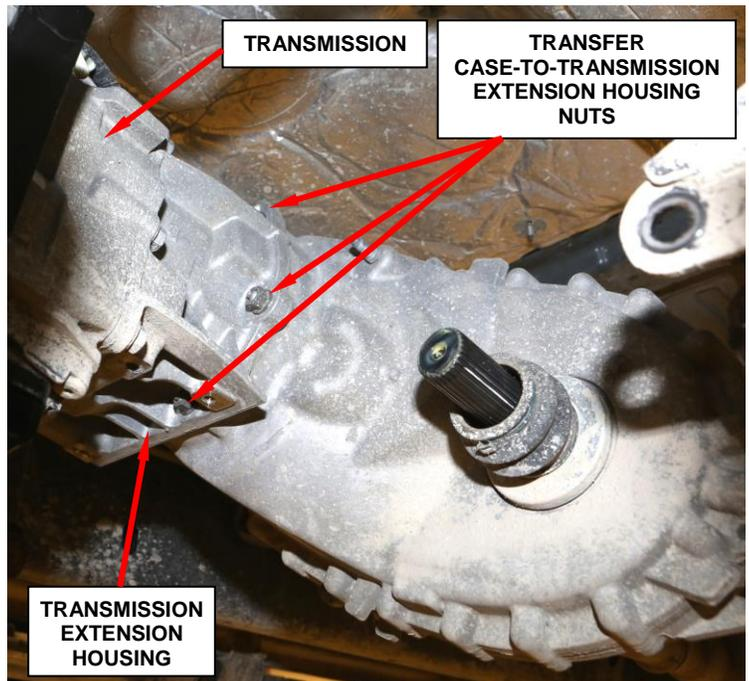

Figure 4 – Transfer Case-to-Transmission Extension Housing Nuts
12. Remove and save the transfer case-to-transmission extension housing nuts (Figure 4).
42. Install the transfer case-to-transmission extension housing nuts (Figure 4). Tighten the nuts to 25 ft. lbs. (34 N·m).